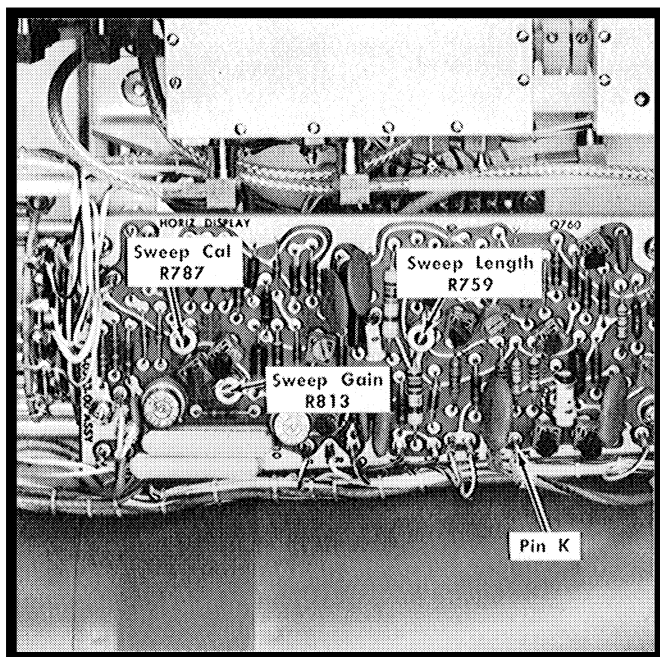

Fig. 6-15. Location of trigger and sweep adjustments.
- c. Adjust the Sweep Length R759 (see Fig. 6-15) for a 7.5 V peak to peak sawtooth waveform on the test oscilloscope
c. Preset the Sweep Cal R787 to midrange. Adjust the Sweep Gain R813 (see Fig. 6-15) for 10.5 divisions of sweep length. Adjust Sweep Cal R787 for 1 marker per division. Sweep timing must be within $\pm 3\%$ (1.2 minor divisions) over the center 8 graticule divisions.